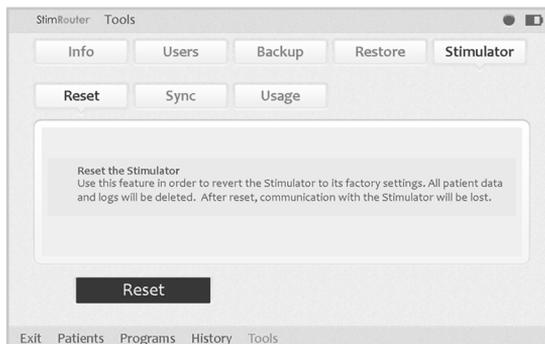

Figure 10-1: Resetting the Patient Programmer and E-EFC
2. Press “Tools” on the Menu Bar, then press the Stimulator Tab. See Figure 10-1.